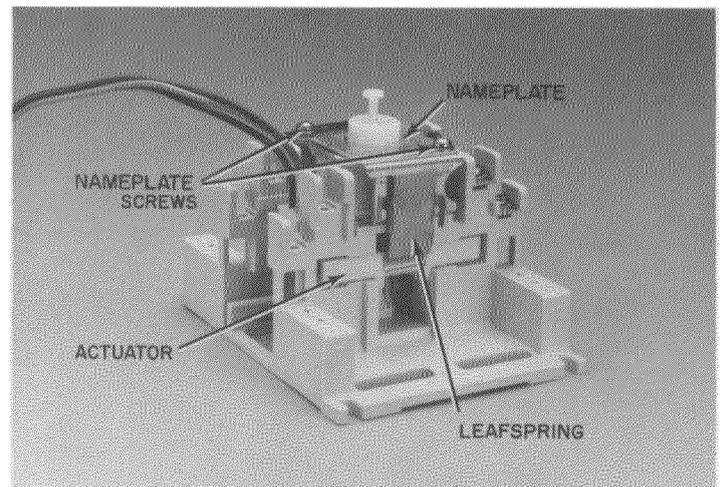

Figure 2.
1. When adding a contact block to the bottom of the contactor, the leafspring must first be removed. See Figure 2. Remove the two screws holding the nameplate and remove the leafspring. Re-assemble the nameplate and screws. Tighten screws to 10 inch-pounds.
3. See Figure 2. Remove the two nameplate screws from the magnetic frame and pull the coil assembly and nameplate straight out.